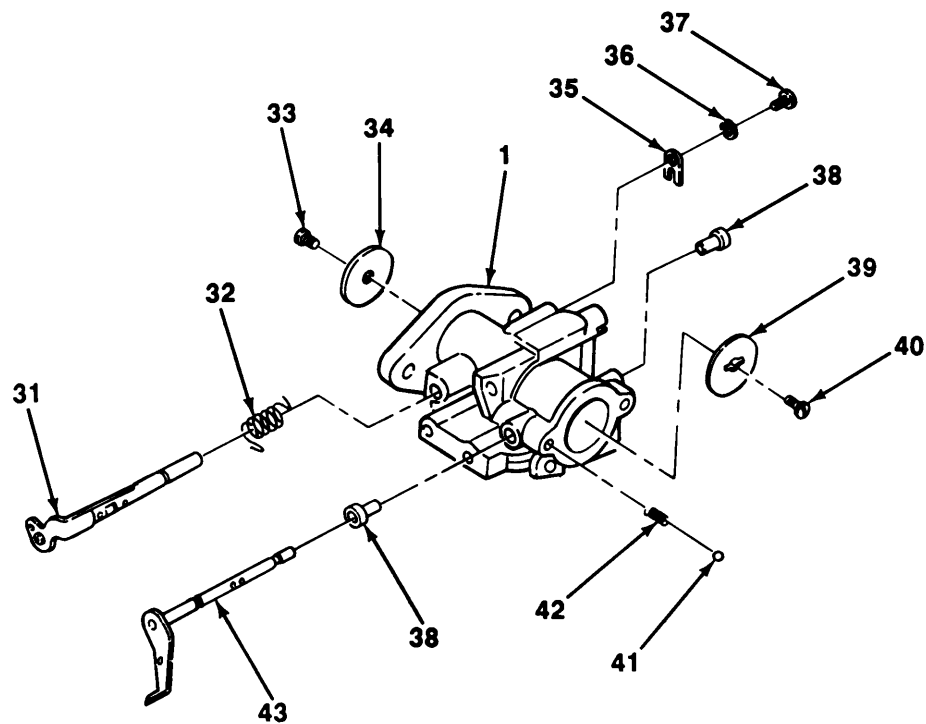

Figure 7-13. Throttle Shutter, Throttle Lever, Choke Valve, and Choke Lever Replacement.
**Refer to Figure 7-13, *Throttle Shutter, Throttle Lever, Choke Valve, and Choke Lever Replacement*, for steps j through o.**
- j. Remove screw (33) and throttle shutter (34) from carburetor (1) and throttle shaft (31). Discard screw.
- k. Remove screw (37), lockwasher (36), clip (35), throttle shaft (31), and spring (32) from carburetor (1). Discard lockwasher.
- l. Remove screw (40) and choke valve (39) from carburetor (1) and choke lever (43).
- m. Remove choke lever (43) from carburetor (1).
- n. Remove two sleeve bushings (38) from carburetor (1).
- o. Remove choke ball (41) and spring (42) from carburetor (1).
Refer to Figure 7-13, *Throttle Shutfer, Throttle Lever Choke Valve, and Choke Lever Replacement*, for steps c through h.